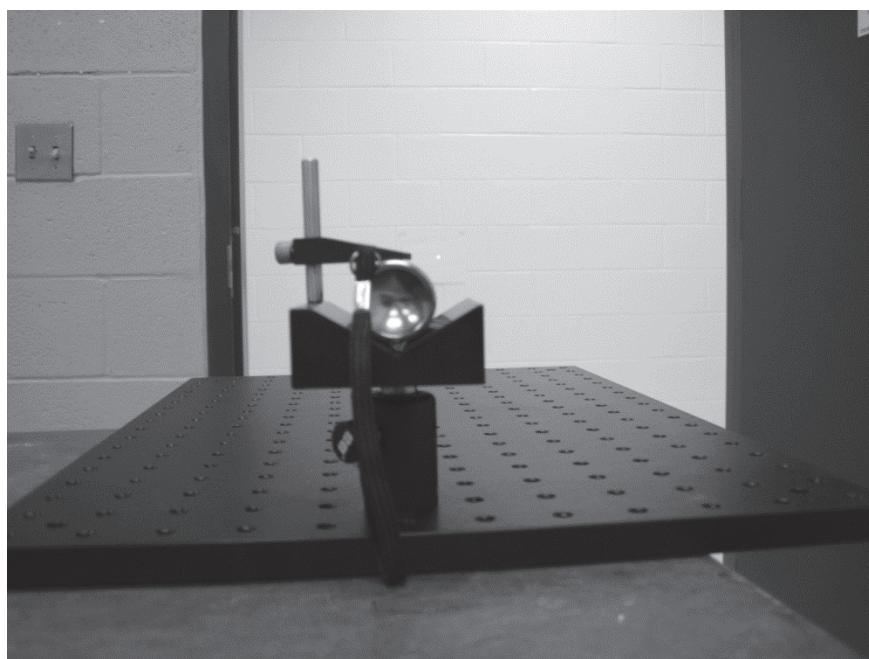
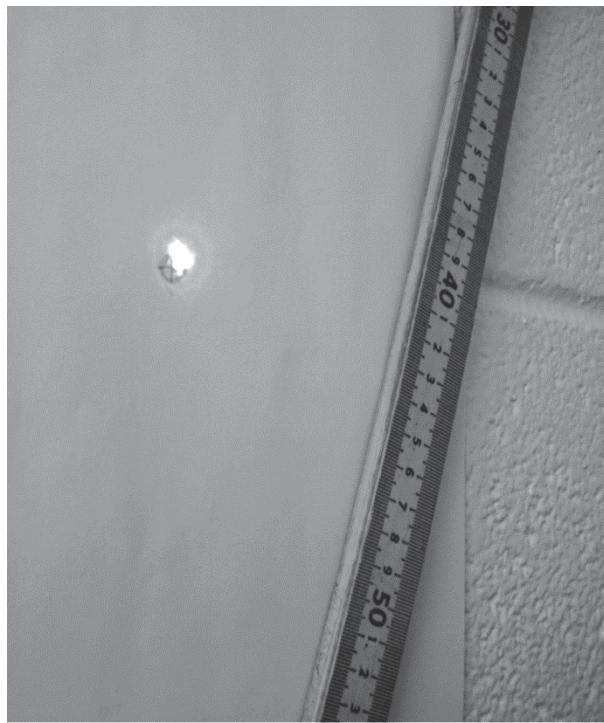

Figure 48 – Beam Divergence Measurement Set-up
Figure 49 – Target Beam Spot for Lab 1-6A
3. Turn on the laser diode module. Adjust the position of the laser diode module until the laser beam hits the index card taped to the wall in Step 2. Refer to Figure 48 and Figure 49.